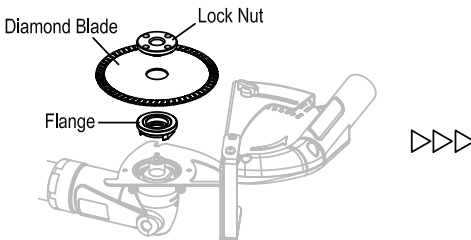

Figure 10
1. Mount the Inner Flange on the Spindle followed by the diamond blade and Locknut. (Figure 10)